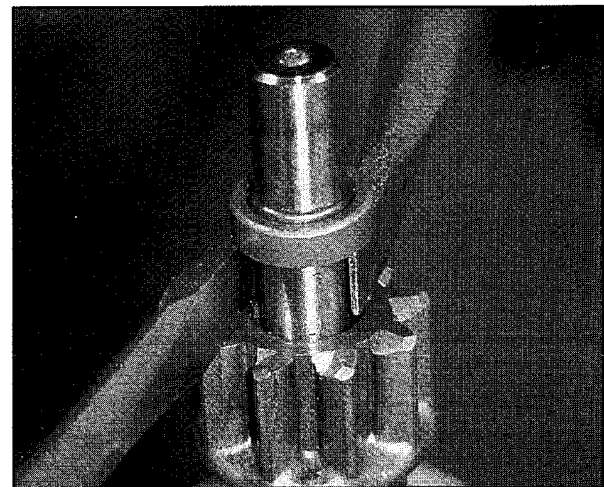

Fig. 39
4. Pry up on retainer until C-ring snaps into groove in retainer, **Fig. 39**.